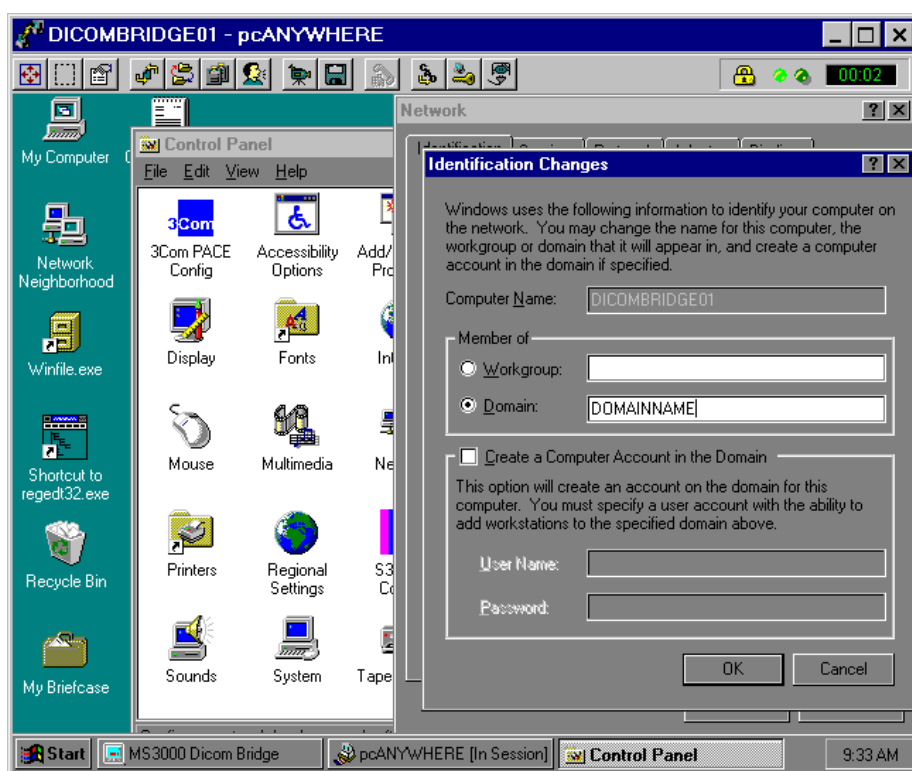

Fig. 2
- The serial connection cable between DICOM Bridge, plug COM2 (see Chapter 2, 6/Fig. 2) and the serial interface of the service PC have been connected.